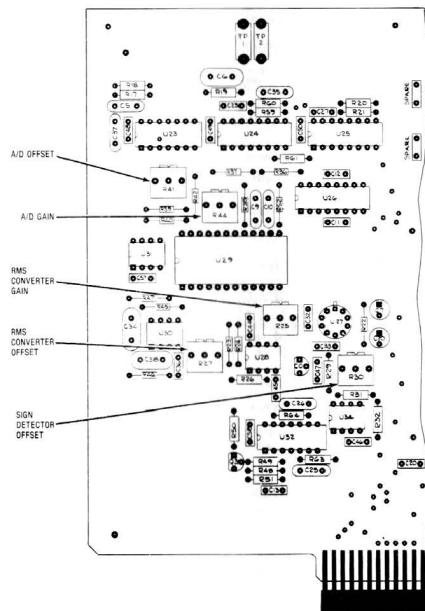

Figure 5-16. Processor I/O A/D Alignment Points
8. Adjust the A/D Offset on the Processor Interface Board (Figure 5-16) until the plus peak deviation reading on the CRT is just toggling between 0.00 and 0.01 kHz. Then slightly turn the adjustment just enough to make the reading 0.00 all the time. Note that if the offset adjustment is turned past this point the deviation reading is still 0.00 but the A/D converter is not aligned properly.
11. Adjust the A/D Gain (Figure 5-16) until the reading on the positive deviation peak is 4.50 kHz.
13. With the center conductor of the front panel DVM input jack again shorted to ground, adjust the RMS Converter offset on the Processor Interface Board (Figure 5-16) for a reading of 0.000 volts on the CRT DVM display.
14. Adjust the sign detector offset (Figure 5-16) until the sign of the 0.000 volt reading is just flashing between plus and minus.
16. While monitoring the input voltage on an external DVM, adjust the RMS Converter Gain on the Processor Interface Board (Figure 5-16) until the CRT DVM reading is equal to the external voltage applied.